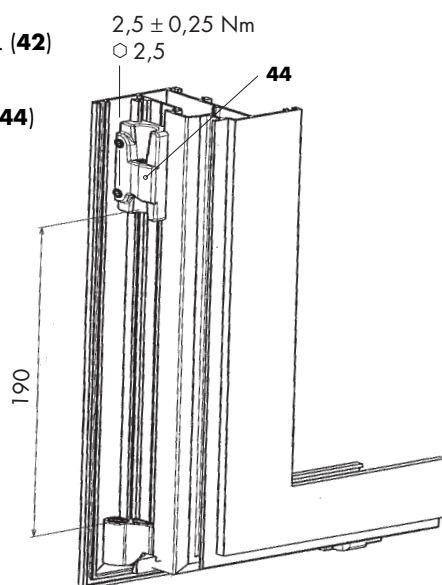

Fig. 3
1. Insert BSU A0040 right/left sash part (44) into the sash groove and secure it (fig. 3).
5. Position the BSU A0040 right/left sash part (44) as shown (fig. 3) and fix in place with  $2.5 \pm 0.25$  Nm.